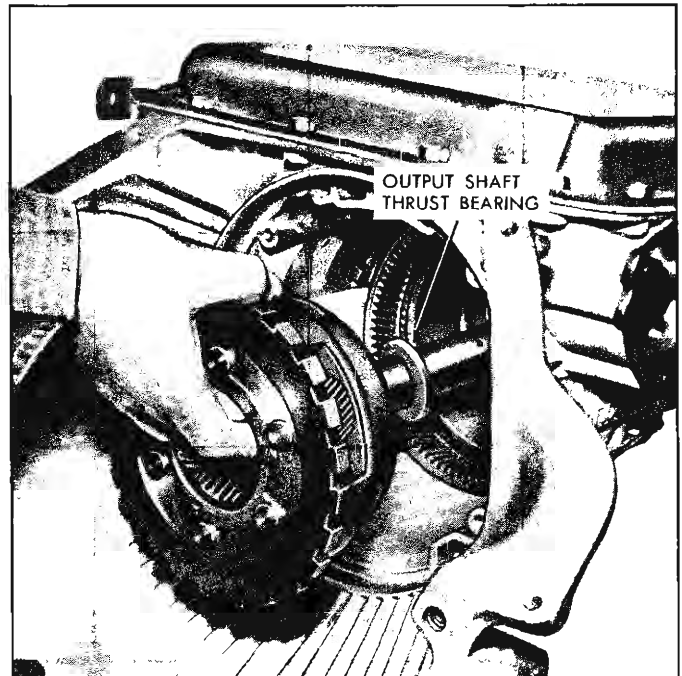

Fig. 37—Installing Gearset
15. Place the output shaft thrust bearing over the output shaft and install the planetary carrier and output shaft into the transmission case (fig. 37).